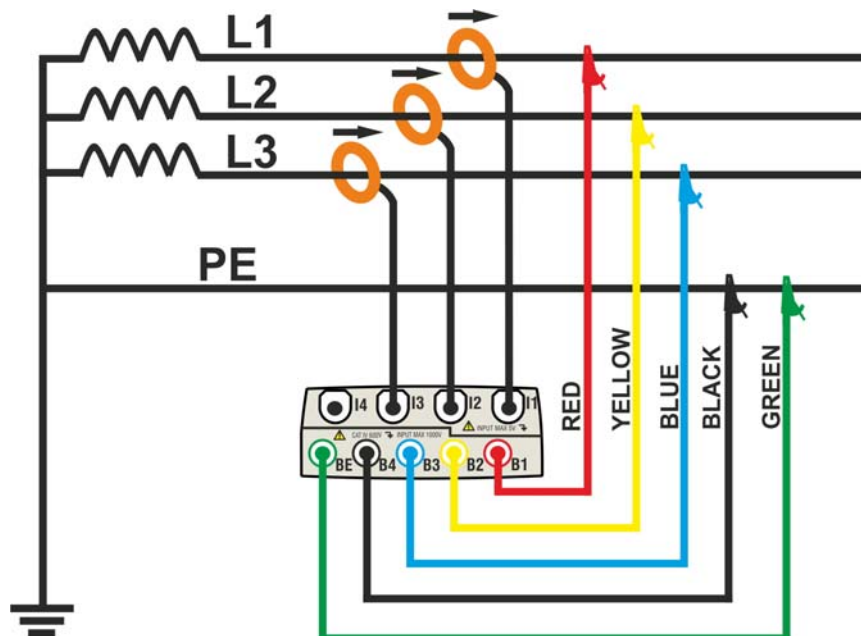

Fig. 119: Meter connection in a three phase 3-wire system – ENG\_UK type
2. Connect voltage test leads on Phases L1, L2, L3, and Ground cables respecting the colours as shown in Fig. 119. **Verify the result “123” at display relative to a correct phase sequence indication** (see § 5.2.1) and perform the corrections if necessary.
3. Connect the transducer current clamps on Phase L1, L2, L3 cables as shown in Fig. 119 respecting the clamp's arrow direction indicating the current standard sequence from generator to load. **On Real Time Values' section screens always verify the positive value of Active Power and the power factor relative to load which should be normally inductive** before starting a recording. Reverse the clamp by 180 degrees on cables in case of negative readings.